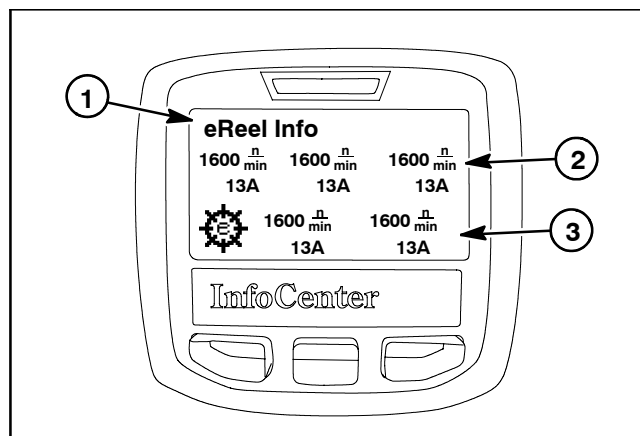

Figure 16
The **eReel Info** screen (Fig. 16) displays the speed and current draw for the five (5) individual cutting unit motors.